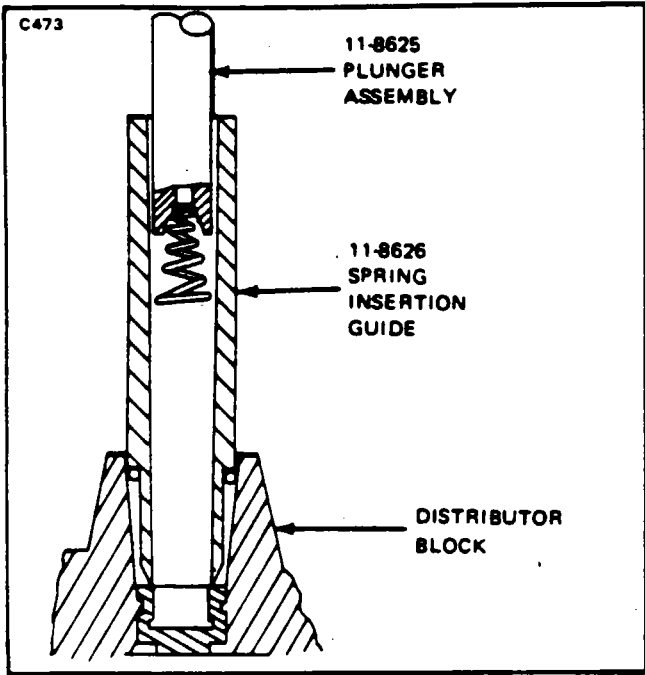

Figure 74-28. Position of 11-8627 Kit and Contact Spring at Start of Installation
6. When lead being replaced is of the elbow type, salvage the used elbow and compression springs for installation on replacement lead. Install these and new sleeve and contact spring (refer to Figures 74-28 and 74-29) furnished with replacement lead per instructions given in Steps 1 thru 4.